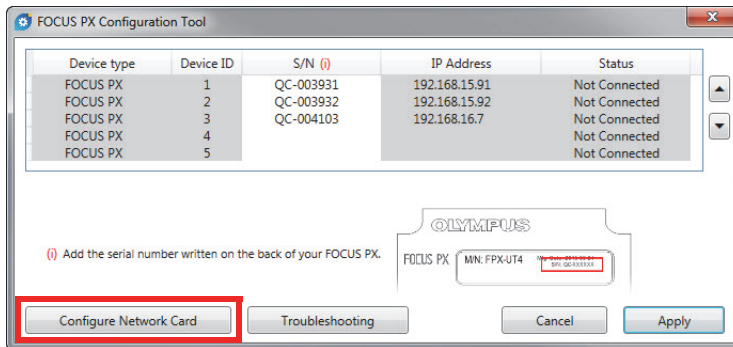

Figure 5-2 Starting the configuration of the network card
3. Click **Configure Network Card** (see Figure 5-2 on page 20).